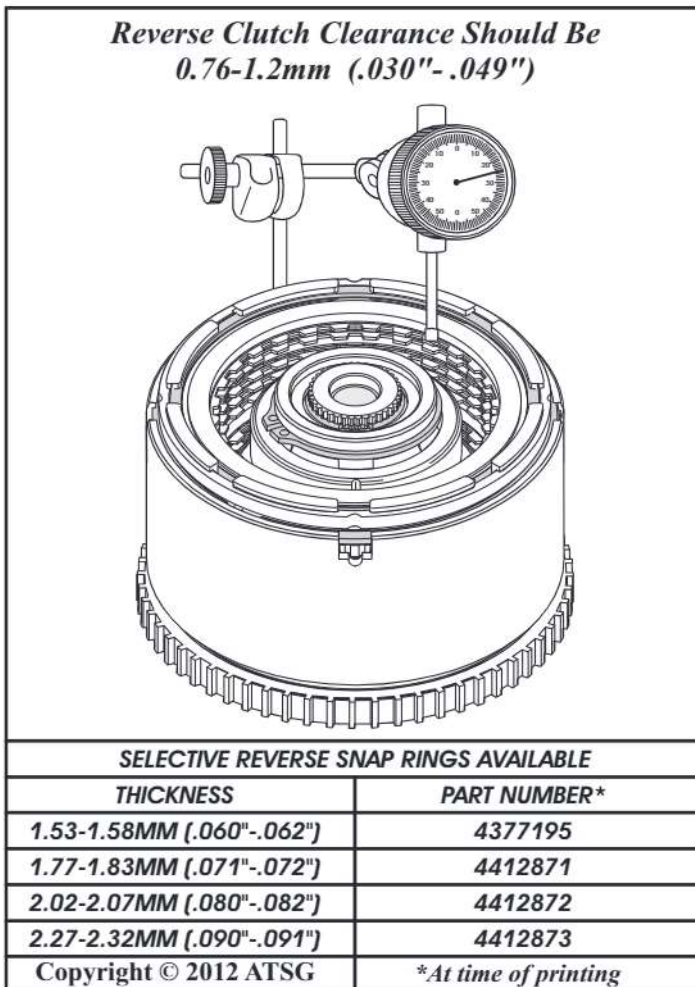

Figure 193
44. Mount a dial indicator to the input housing and zero the indicator against a tooth of the reverse friction plate, as shown in Figure 193.
46. The correct reverse clutch clearance should be 0.76-1.24mm (.030"-.049") (See Figure 193).
47. Change selective snap ring as necessary using the chart in Figure 193, to obtain proper reverse clutch clearance.